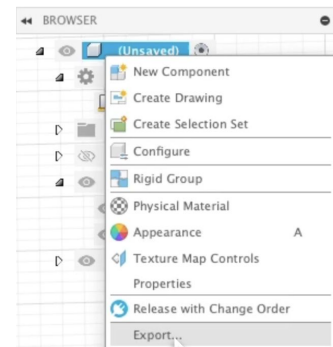

Figure 1.2
2. Select **Export** (see Figure 1.2).